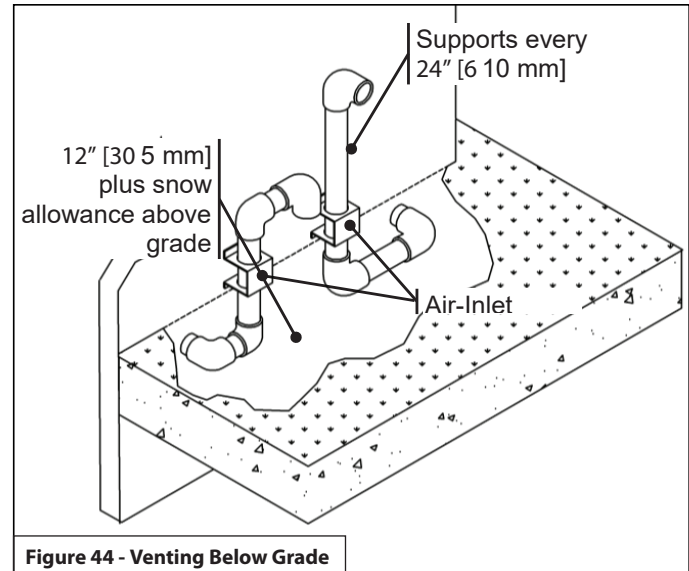

Figure 44 - Venting Below Grade
- Excavate the site to a point where the pipes are to exit as shown in Figure 44.